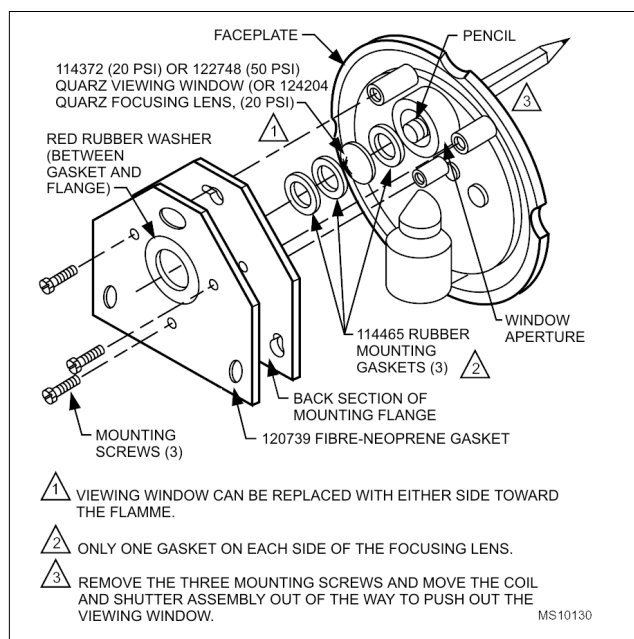

Fig. 14. Replacing quartz viewing window or focusing lens
- A Clean the viewing window (or focusing lens) when necessary. Remove the detector (see Troubleshooting section) and use a clean cloth over the eraser end of a pencil. Do not remove the window (or lens) to clean it. If it is broken or damaged or it is coated with a substance that cannot be cleaned off, replace it (see Fig. 14).